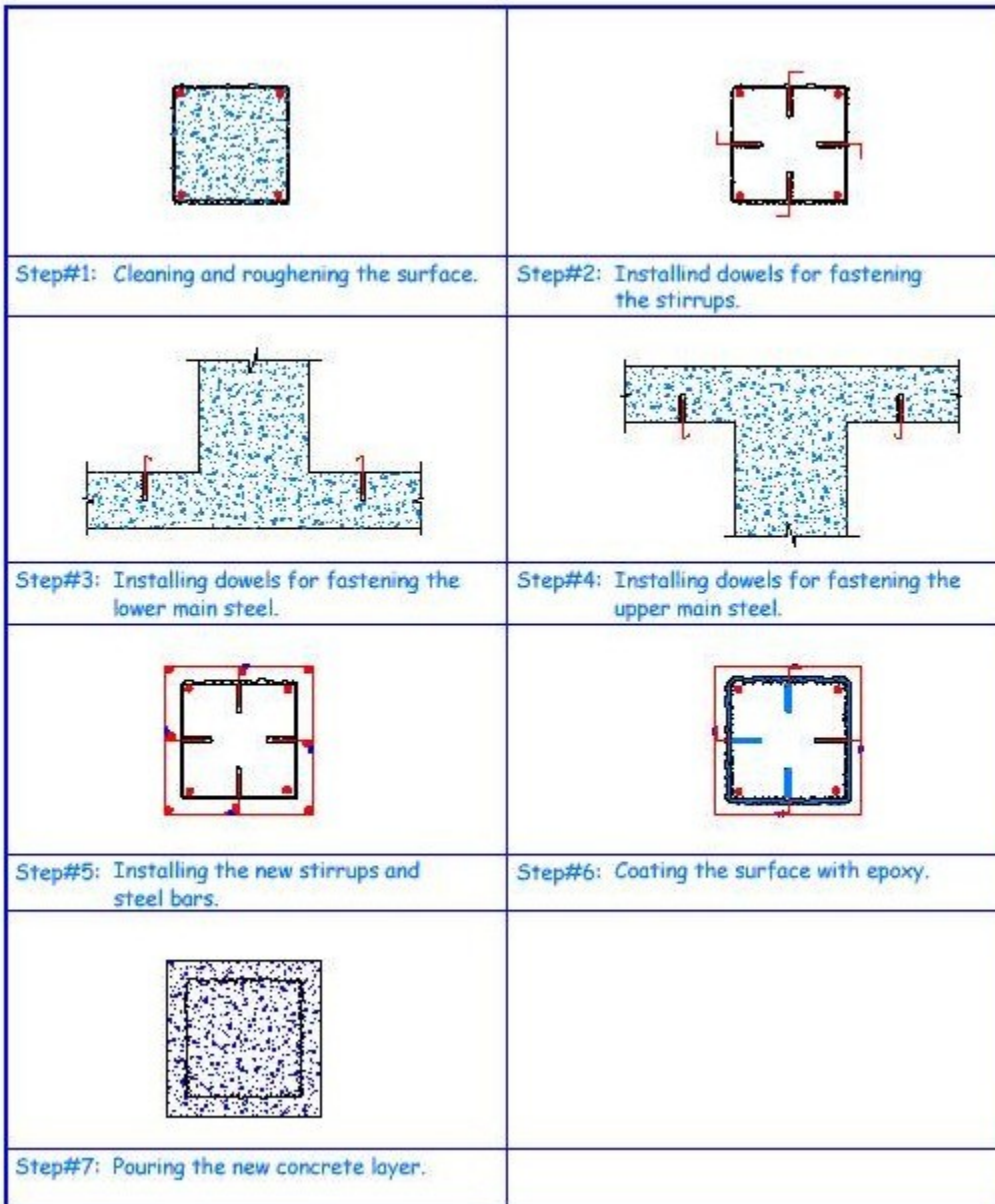

Fig. 1: Increasing the Cross-sectional Area of Column by RC Jacketing
11. Pouring the concrete of the jacket before the epoxy material dries. The concrete used should be of low shrinkage and consists of small aggregates, sand, cement and additional materials to prevent shrinkage. Steps of reinforced concrete jacketing are illustrated in Fig. 1.